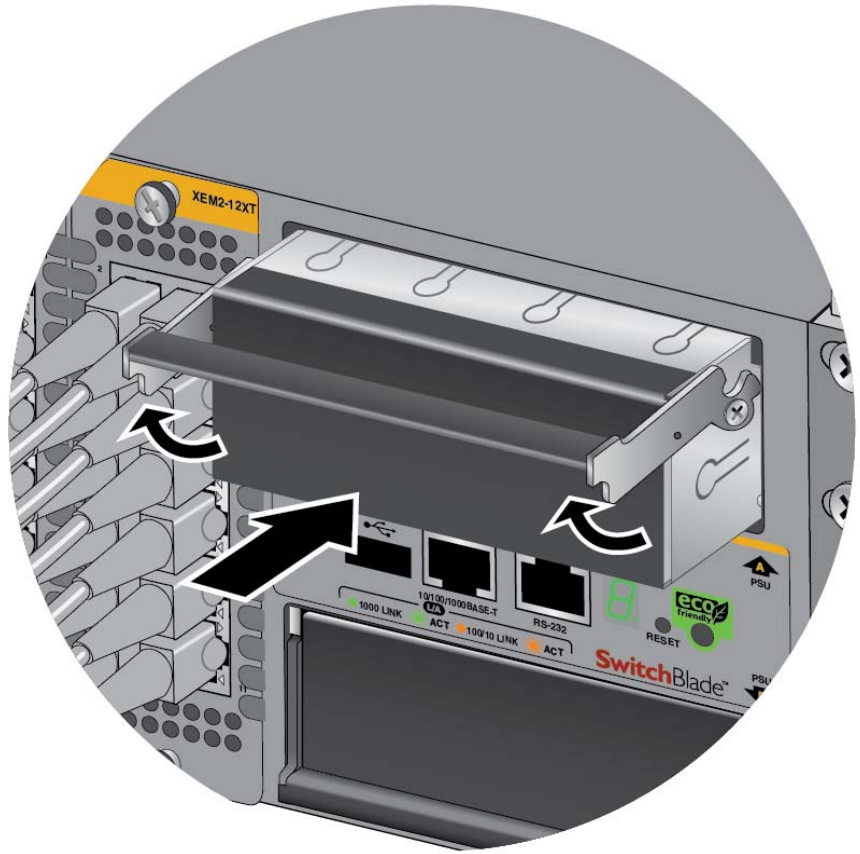

Figure 105. Installing the Blank Power Supply Slot Cover
13. Place the locking handle on the blank power supply slot cover in the up position and slide the cover into the empty power supply slot. Refer to Figure 105 on page 143.